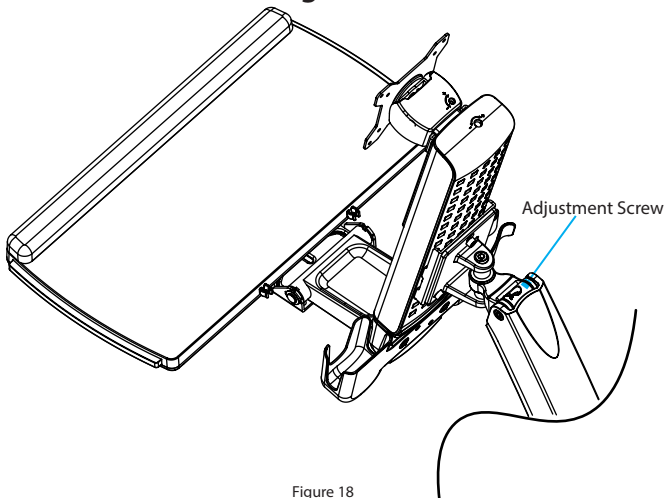

Figure 18
- If the **Workstation** doesn't remain in the set position, or it's difficult to raise or lower, use a **Ratchet** with the **8 mm Socket** to turn the **Screw** in the hinge of the **Monitor Arm** to adjust the tension of the **One-Touch Height Adjustment Spring**. (Figure 18)